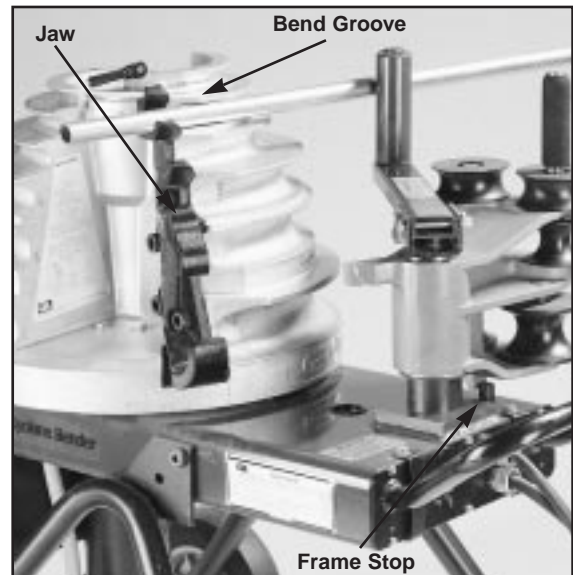

Figure 3. Bending 1/2" - 1"
5. The upper urethane roller and support arm (Figure 3) is used for bending 1/2" through 1" conduit . One of the top three shoe grooves will be used, depending on conduit size.
8. Insert the conduit in the shoe groove marked with the number matching the size conduit being bent. The conduit must set in the shoe and in the jaw. The end of the conduit must extend a minimum of 2" beyond the jaw. (See Figure 3.) Refer to table A or B on page 5 for bending data.